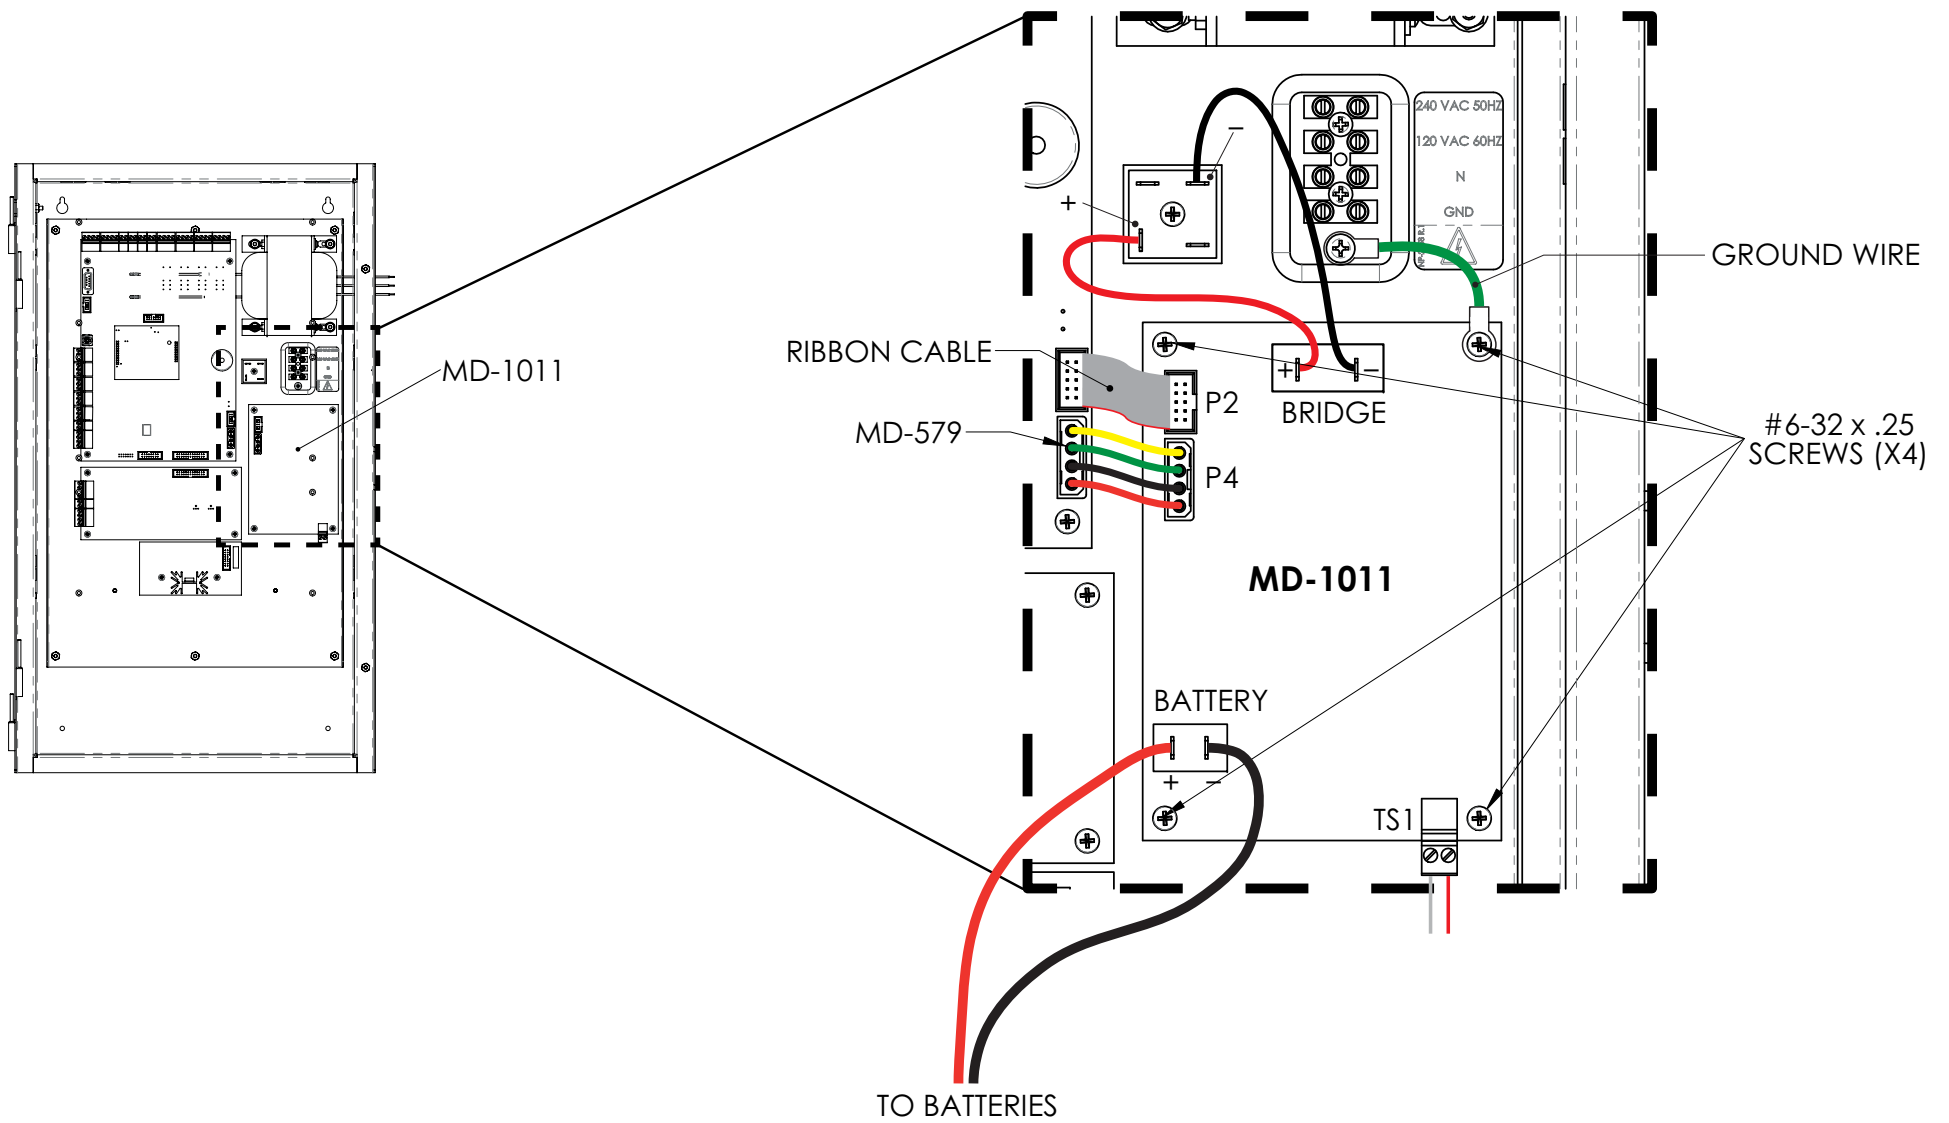

Figure 1: Location of connectors and terminals on the MD-1011 Power Supply board.
1. Disconnect the + and - wires from the BATTERY terminals on the MD-1011 (refer to Figure 1 for locations of connectors and terminals).
3. Perform the following steps (refer to Figure 1 for locations of connectors and terminals):
NOTE: Ensure that you secure the ground wire to the upper right corner of the board (see Figure 1).